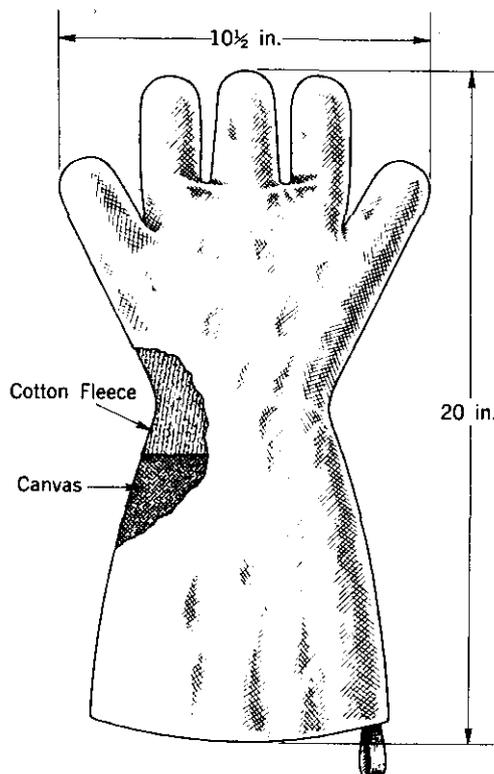

Fig. 1.
2.01 The glove consists of a 20-inch asbestos gauntlet having three fingers and two thumbs. It is large enough for any hand and arm, and having two thumbs it can be used on either hand without loss of time in arranging a proper fit. See Fig. 1.